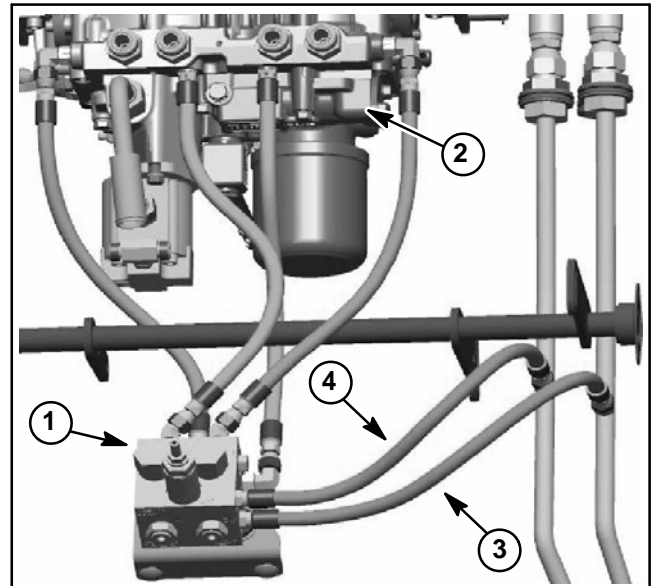

Figure 127
4. Thoroughly clean hydraulic hose ends prior to disconnecting hoses from the AWD control manifold. Label all hydraulic connections for assembly purposes (Fig. 127).
5. Disconnect hydraulic hoses from control manifold. The hoses at control manifold ports LR and RR need to be disconnected at hydraulic tubes before removal from manifold (Fig. 127).
8. Remove two (2) cap screws (item 1) and washers (item 5) that secure manifold to mount plate. Remove manifold from machine.
9. Locate and retrieve washers (items 5 and 8) from top and bottom of mounts (item 4).
4. Position washers (items 5 and 8) to top and bottom of mount (item 4). Secure control manifold to machine with two (2) cap screws (item 1) and washers (item 5).
6. Lubricate and install new O-rings on control manifold fittings. Using labels placed during manifold removal, correctly connect hydraulic hoses to control manifold and hydraulic tubes (Fig. 127) (see Hydraulic Hose and Tube Installation in the General Information section of this chapter).